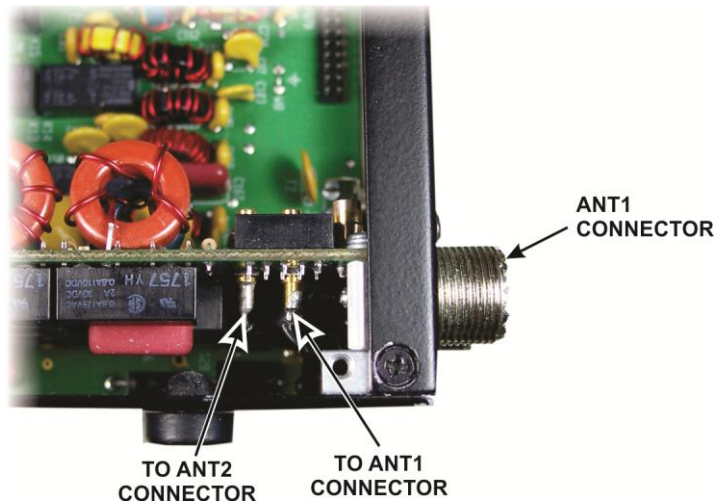

Figure 11. Unplugging the ANT Connectors.
□ At the opposite end of the rear panel are one or two SO-239 “UHF” antenna connectors, depending upon whether you have the KAT3 ATU installed. Directly behind the ANT connectors are one or two pin connectors to the pc board (see Figure 11). Use your needle nose pliers to unplug the connector(s).
Reconnect the ANT connector(s) to the KAT3 or KANT3 (Figure 11, pg 7). If you have the KAT3 ATU, be sure you connect ANT1 to the connector closest to the rear panel. Use a DMM if needed to confirm you have the connectors in the correct locations.